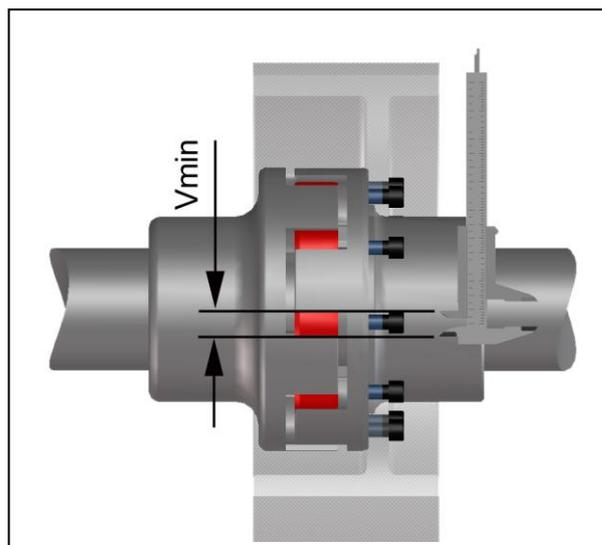

Fig. 9
- Measure the claw distance „V“ in circumferential direction across the buffers to which the claws rest on both sides (see fig. 9). The adjacent buffers do not contact the claws.